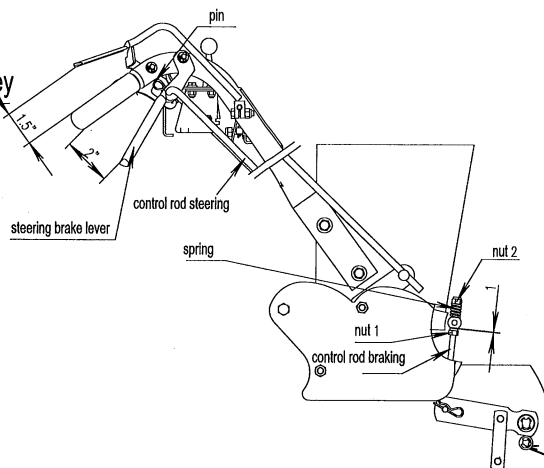

figure 11
- Adjusting brake lever: Loosen or tighten nylon insert locknut at the bottom of brake lever to adjust the length of the brake lever. See figure 11